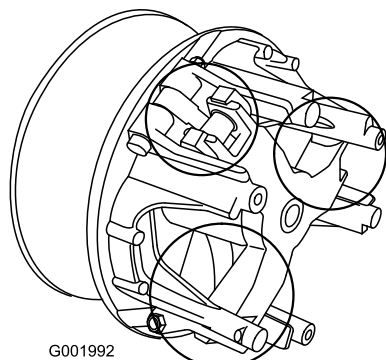

Figure 56
5. Lubricate the moving parts in the areas circled in Figure 56 using Toro Dry Lubricant Spray, available through your Authorized Toro Dealer or Distributor.